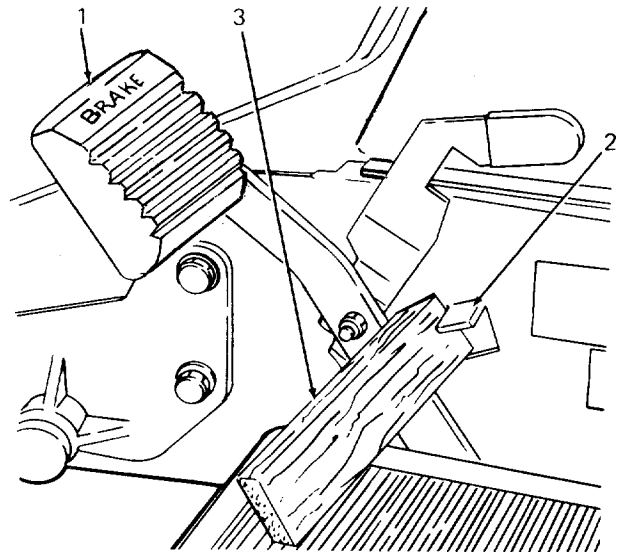

Figure 30
1. To check brake adjustment, place a 1 inch thick wood block between the single brake pedal and the brake lock tab (see Figure 30).
2. Place a 1 inch thick wood block between the single brake pedal and the brake lock tab (see Figure 30).